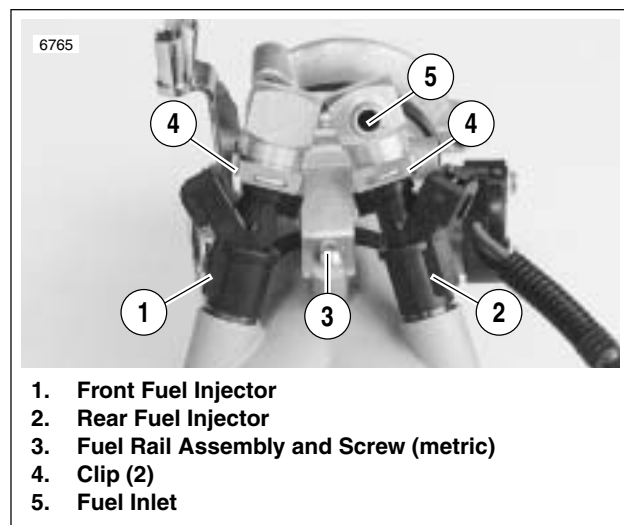

Figure 4-102. Fuel Injectors
2. See Figure 4-102. Separate fuel rail assembly (3) from throttle body manifold.
- a. Remove both injector clips (4).
- b. Remove screw (3) (metric) that holds the fuel rail to the manifold.